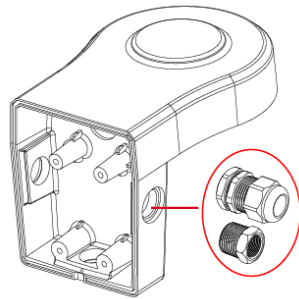

Figure 2
- If the cables are routed through one of the holes on the wall mount bracket, ensure that you use the Male 3/4 inch NPT to female M20 adaptor (Fig.2) or waterproof adaptor (Fig.2) as needed.